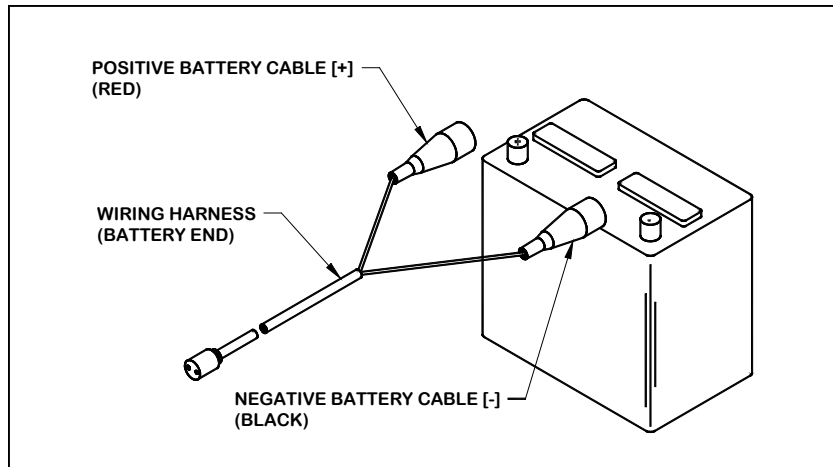

Figure 3. Battery Connections
1. Connect the positive (+) battery cable to the positive battery terminal and the negative (-) battery cable to the negative battery terminal as shown in Figure 3. Route the plug out to the hitch area of the tractor, bundle and secure surplus wire to prevent entanglement in moving components. Use a 12 volt battery for this application. **Connect the battery end of the wiring harness to the battery before connecting the unit end.** This will reduce the chance of creating a spark which may cause the battery to explode.